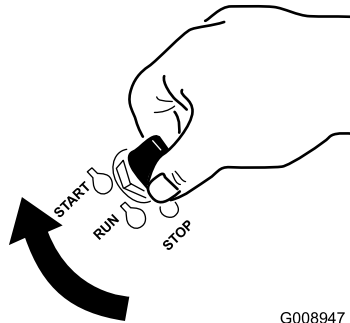

Figure 16
1. Turn the ignition key to the Start position (Figure 16). When the engine starts, release the key.
- Turn the ignition key to the Start position (Figure 16). When the engines starts, release the key.